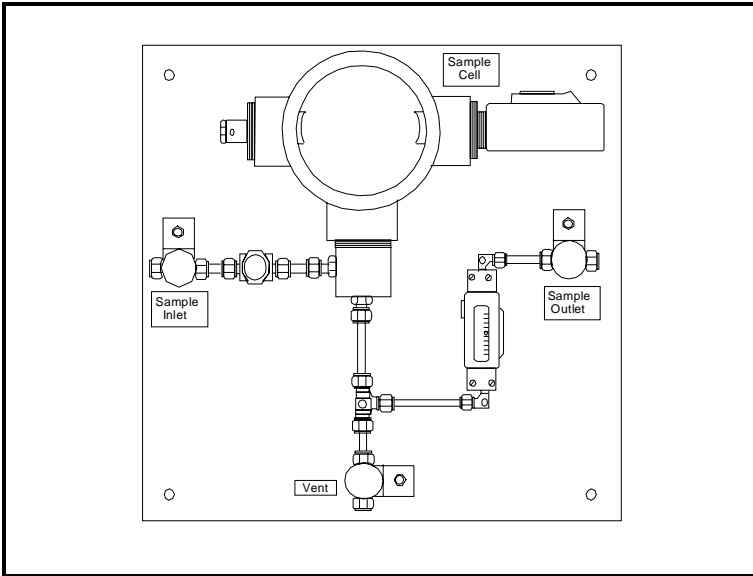

Figure A-1: A Typical Moisture Sample System
- Typically, sample systems should be kept very simple. They should contain as few components as possible and all or most of those components should be located downstream of the measurement probe. Figure A-1 on the next page shows an example of a simple sample system consisting of an explosion-proof housing with a sample cell, a filter, a flow meter, a vent valve and two shut off valves, one at the inlet and one at the outlet.